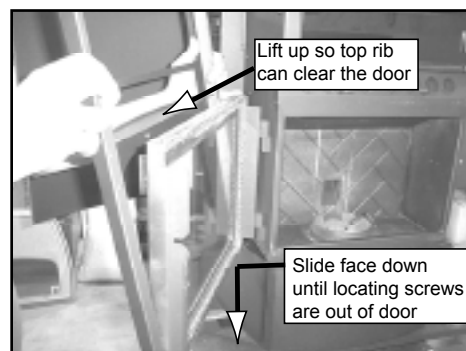

Figure 20.2
2. Tilt the top of the face forward until the top rib clears the door, then slide the face down until the locating screws on the bottom rib are completely out of the door. **Figure 20.2.**